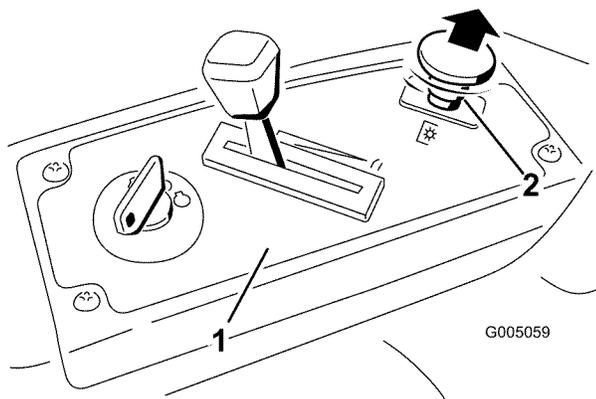

Figure 13
- 3. Pull up on the blade control switch to move it to the On position and engage the blades (Figure 13).